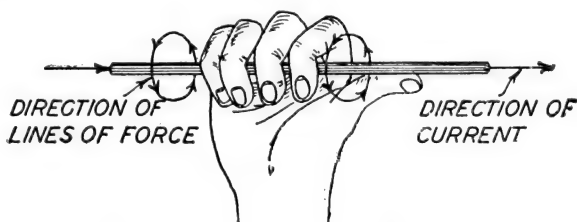

Fig. 12. Application of the Right-Hand Rule
**Right-Hand Rule.** Grasp the conductor in the right hand with the thumb pointing in the direction of the current flow. The fingers will then point in the direction of the lines of force, Fig. 12. If the